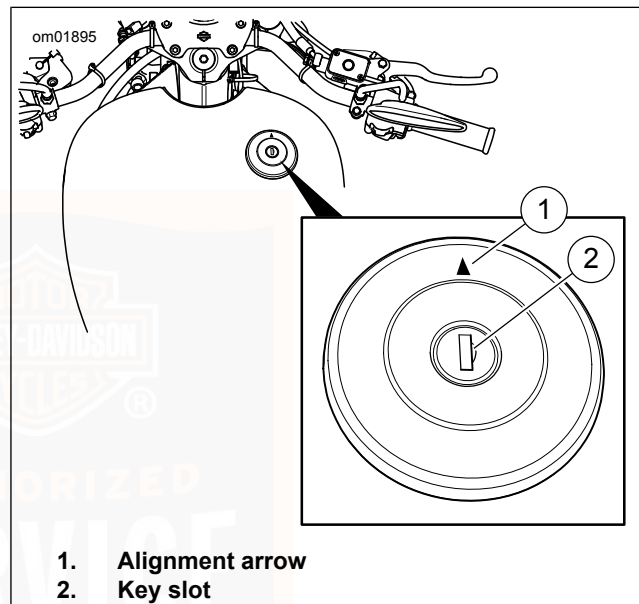

Figure 7. Fuel Filler Cap
1. See Figure 7. Insert the ignition key into the key slot (2).